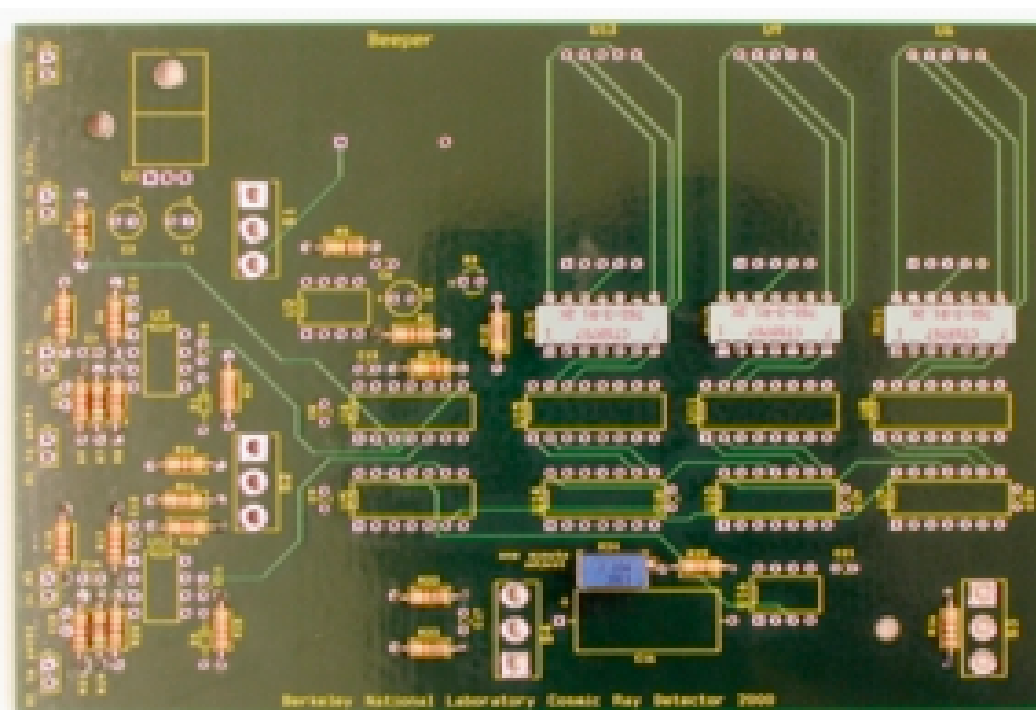

Figure 20: Circuit board with all resistors in place.
6. **Repeat the above steps for other components.** See Figure 20 for resistors.